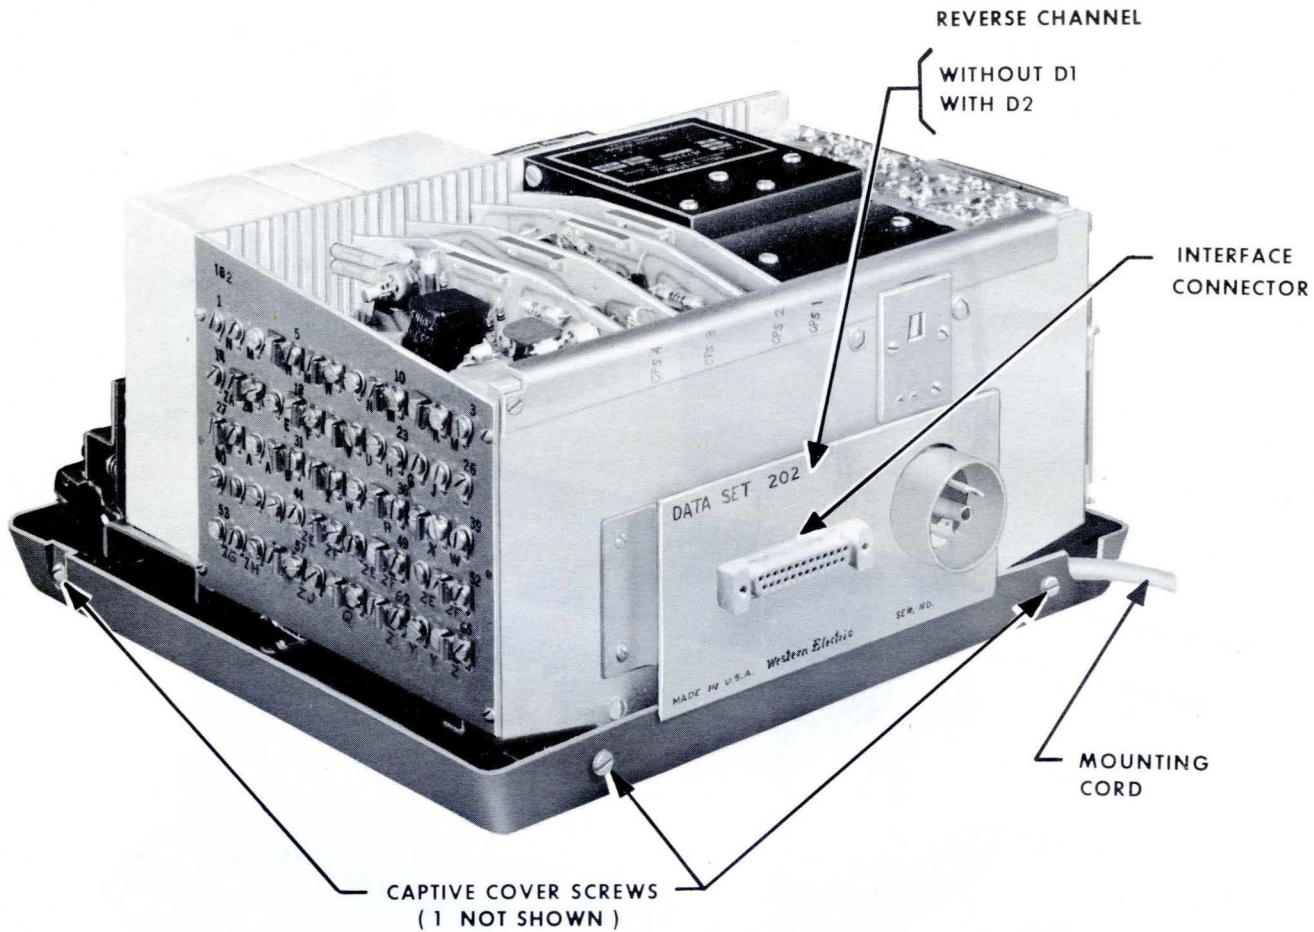

Fig. 4 - Data Set 202D2 - Rear View
Note: The data set nameplate (Fig. 4) should be restenciled when addition or removal is made.
2.08 The business machine cord is connected to the data set at the interface connector (Fig. 4). The business machine connection cord (50 feet maximum length) must be furnished by the customer. Inter-
- (1) Loosen but do not remove the four captive cover screws located around the base pan (Fig. 4).
- (2) Remove cover by pulling straight up.